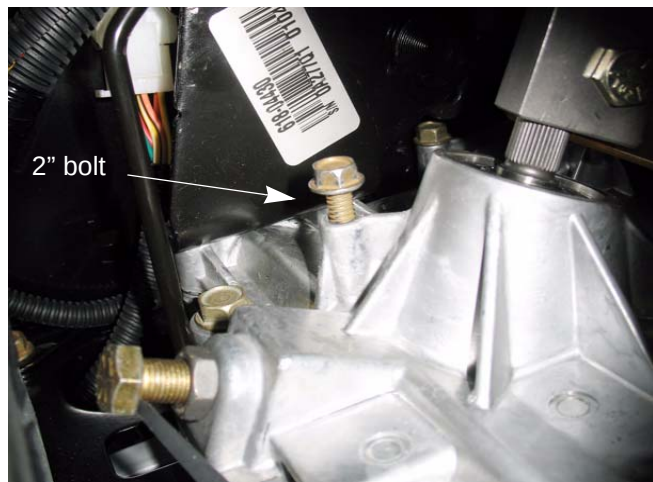

Figure 6.2
- 1b. Using a 1/4"-20 bolt having a minimum of 1.5" of threaded length, thread the bolt into the steering box centering port until you feel it touch the steering rack. While trying to gently thread the bolt further, slowly rotate the steering shaft back and forth until the bolt seats into the detent in the steering rack. Finger tighten the screw to set the screw fully into the detent. The steering gear box is now centered and locked. See Figure 6.2.